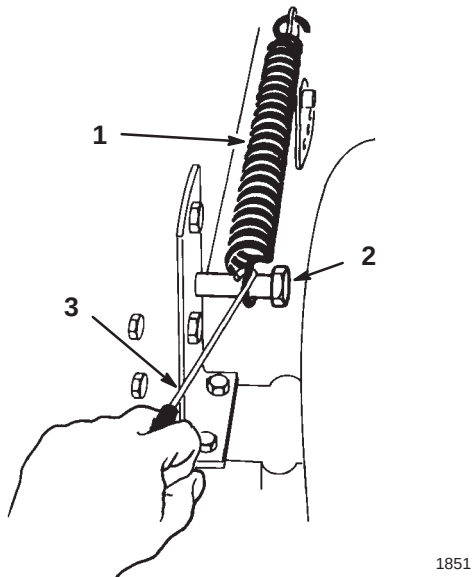

Figure 7
6. Remove the lift assist spring between the mower right side lift bracket and the retaining bolt (Fig. 7).